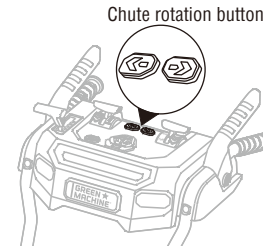

Fig. 9A
**NOTE:** The direction of snow removal can be adjusted up to 200° by pressing the chute rotation button. (Fig.9A)